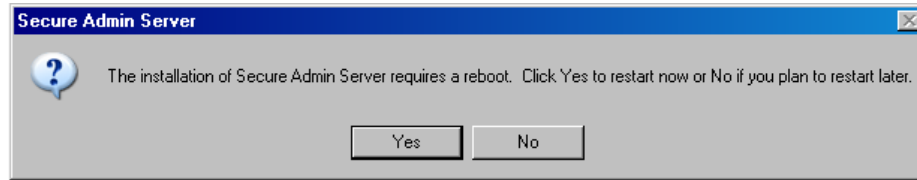

Figure 3-3: Restart Message
3. Click **Install**. Microsoft .NET Framework 3.5 is installed. Restart the computer when asked (see Figure 3-3). The installation process continues automatically after the computer is restarted.
4. Click **Install**. Microsoft .NET Framework 3.5 is installed. Restart the computer when asked (see Figure 3-3). The installation process continues automatically after the computer is restarted.